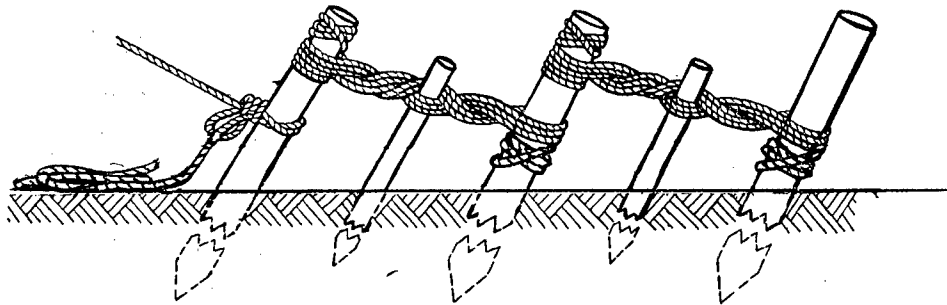

FIGURE 9.—Pickets
A. DESCRIPTION—Con.	<ul style="list-style-type: none"> <li>a. A single picket in undisturbed loamy soil will hold up to 700 pounds.</li> <li>b. A 1-1-1 combination (figure 9) will hold 1,800 pounds.</li> </ul>